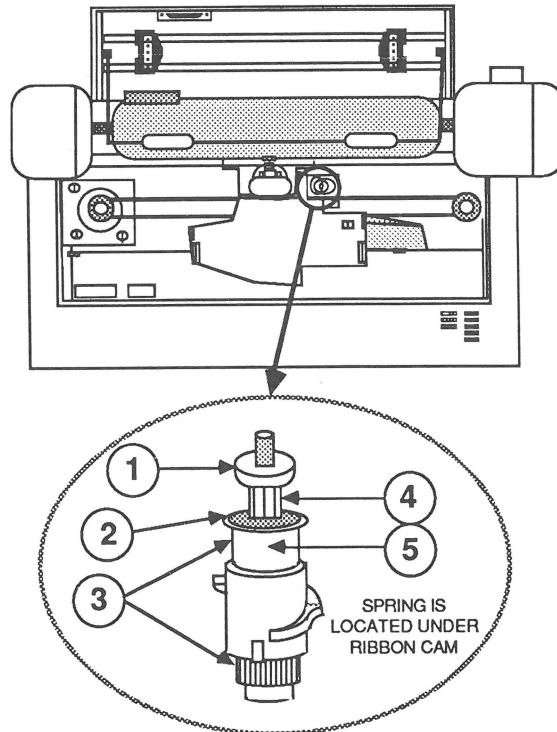

FIGURE 6
3. Remove the lock nut (Figure 6, #1).
4. Remove the retaining clip (Figure 6, #2) with a pair of small needlenose pliers, and take off the two washers.
5. Lift off the ribbon cam (Figure 6, #3), turning it until it is free from the ribbon plate.
6. Remove the adjustment nut (Figure 6, #4).
7. Remove the spring (Figure 6, #5).
1. Replace the spring (Figure 6, #5).
2. Replace the adjustment nut (Figure 6, #4).
3. Slide on the ribbon cam (Figure 6, #3) so that the ridge on the cam is between the two tabs on the ribbon plate. Improper positioning of the cam can cause poor-quality printing or no printout.
4. Replace the two washers and the retaining clip (Figure 6, #2).
5. Replace the lock nut (Figure 6, #1).